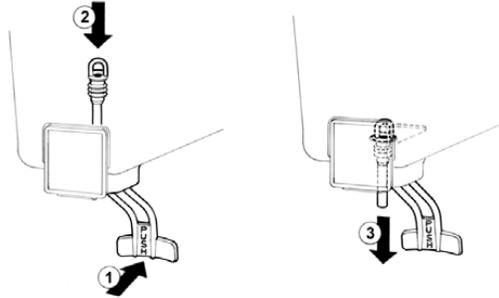

figure 5
- 2 **Pinch tube faucet:** push the dispensing handle (1) and insert the pinch tube into its vertical seat in the bowl bottom(2). Lightly pull the pinch tube end downwards til it is well arranged
(3) (see figure 5).